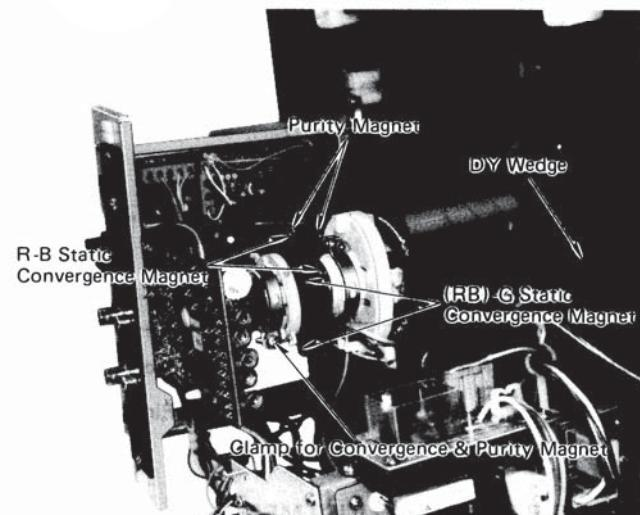
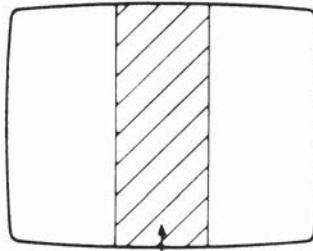

Figure 10
Figure 12
7. Loosen the purity magnet clamp (See figure 10) and adjust the purity magnet to set the vertical green raster precisely in the center of the screen. (See figure 12.) Tighten the clamp.
3. Loosen the convergence magnet clamp and align the red and blue dots at the center of the screen, by rotating the R-B Static Convergence Magnet. (See figures 10 and 14.)
4. Align the convergence red/blue dots with the green dots in the center of the screen, by rotating the (RB)-G Static Convergence Magnet. (See figures 10 and 14.)
6. Remove the DY wedges (See figure 10) and slightly tilt (do not rotate) the deflection yoke horizontally and vertically to obtain good overall convergence.